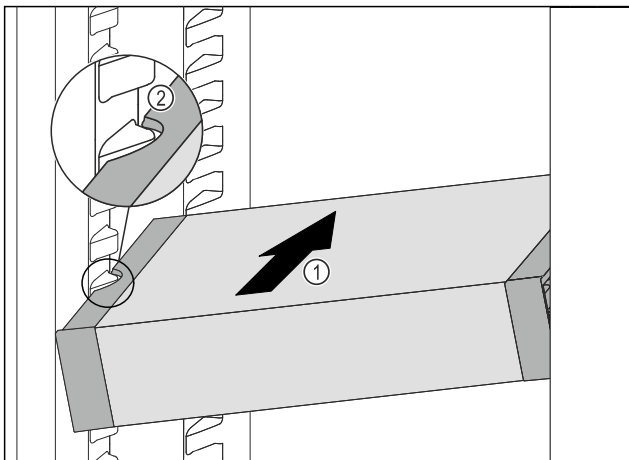

Fig. 92
- ▶ Insert the VarioSafe into the fridge section at an angle Fig. 92 (1) until the recesses in the side Fig. 92 (2) of the VarioSafe are at the level of the support rib in the fridge section.